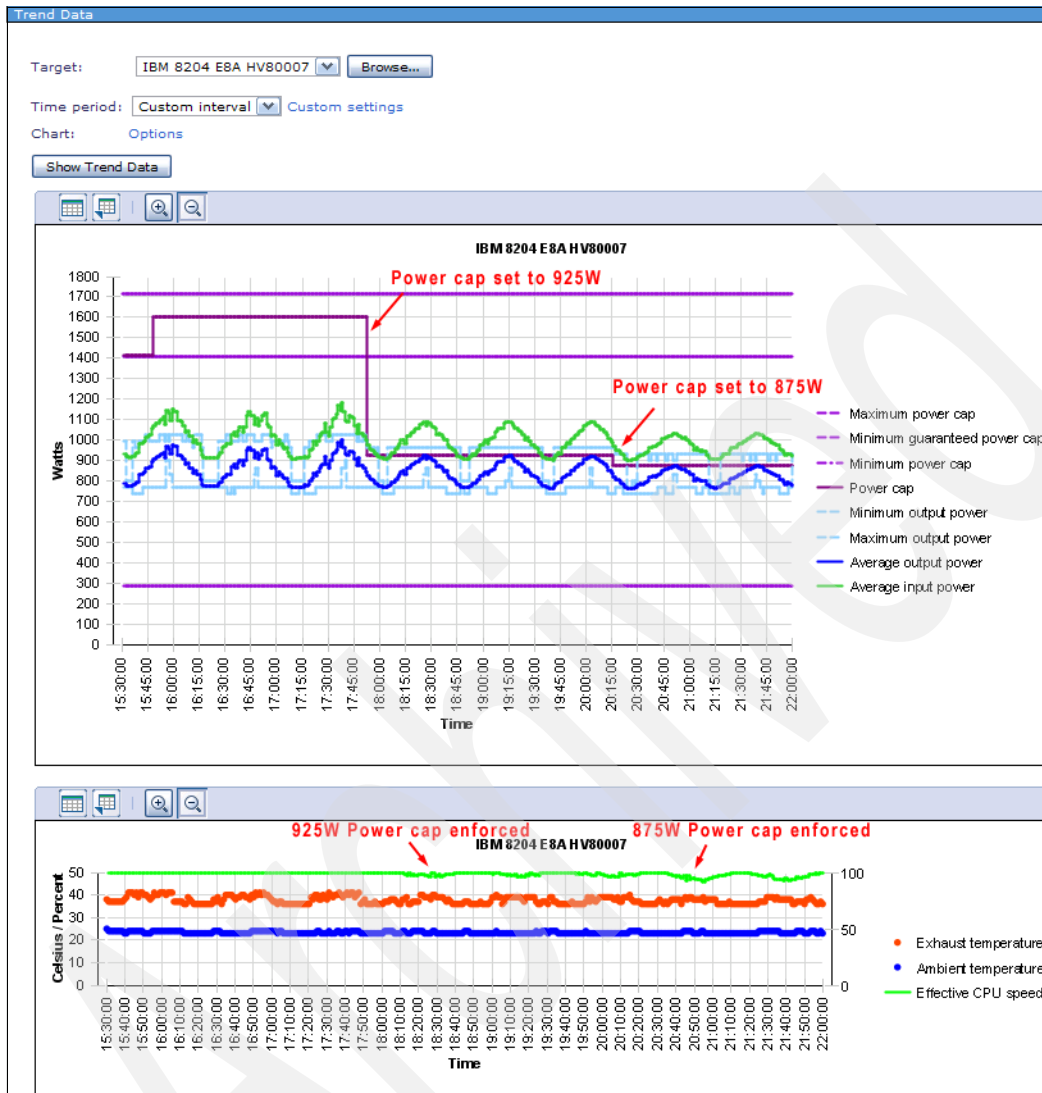

Figure 7-25 Power capping example 2
In the Figure 7-25 on page 319, a POWER6 processor-based system has power capping and power savings disabled. Its workload shows a cyclical behavior, varying between idle and heavy utilization over the course of several hours. Average output power (DC) varies between 770 watts when idle, and 1,001 watts at peak load. The CPU frequency remains constant at 100% for the first three cycles of the workload. The maximum output power (DC) tends to vary around 1,000 watts, and the minimum output power (DC) tends to vary around 750 watts, near the server's idle power consumption.